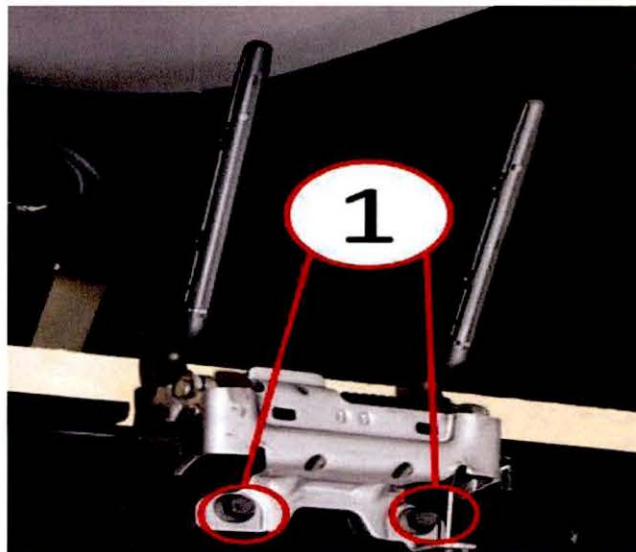

Fig. 3 Headrest Mechanism
4. Install the new headrest mechanism and torque the bolts shown in (Fig. 3) to 21N·m (15 ft. lbs.).